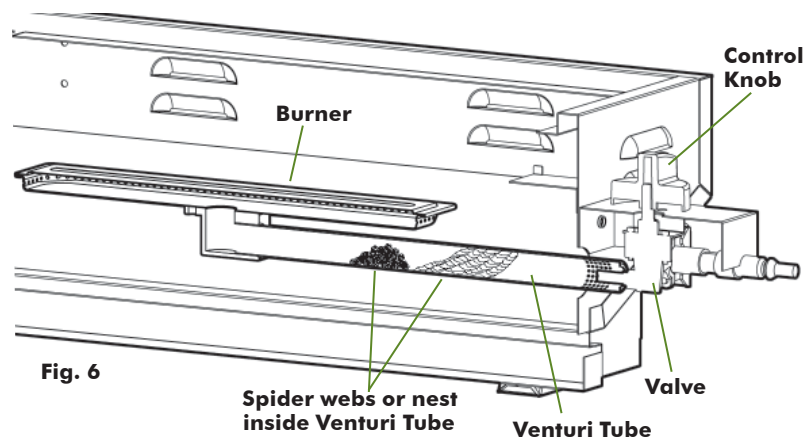

Fig. 6
- Regularly inspect and clean Burner/Venturi Tube for insects or insect nests, especially after periods of storage. Spiders or small insects can build nests, webs, and lay eggs in the grill's Venturi Tube, obstructing the flow of gas to the Burner. (Fig. 6) The backed-up gas can ignite and cause a fire. This is known as a "flashback."